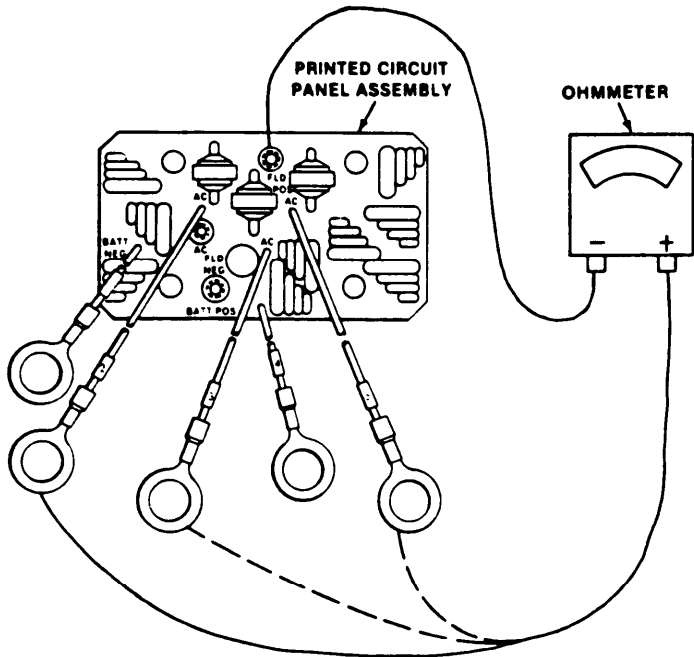

Figure 2-8. Open Printed Circuit Panel Assembly Diode Check.
Step 10. Check for open diodes on printed circuit panel assembly. Connect ohmmeter to each of the three long black leads according to figure 2-8.